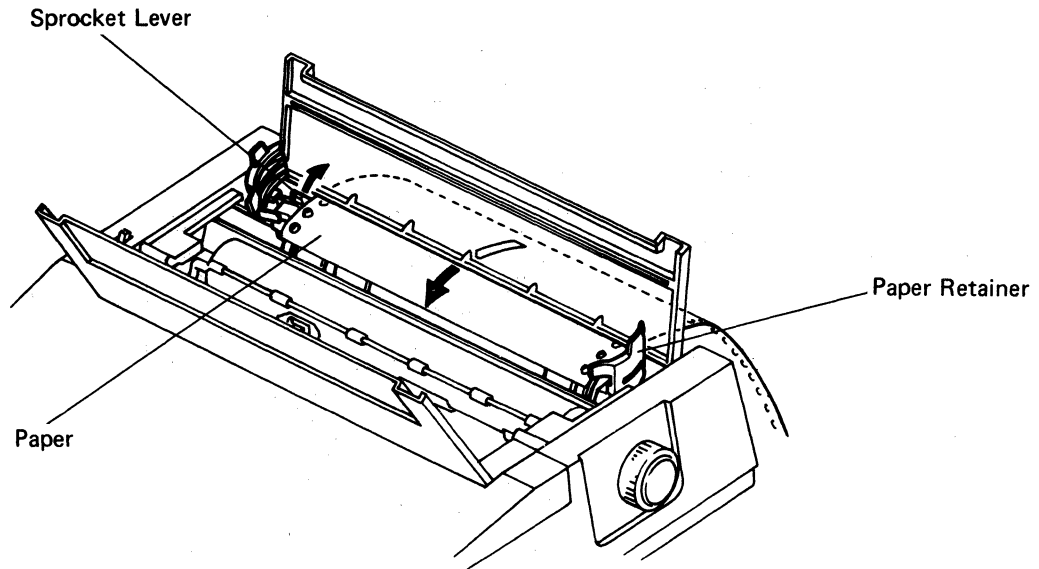

Fig. 8 Paper Insertion (3)
- (5) Fit the paper sprocket holes onto the right and left sprocket tractor pins. If the paper width necessitates adjusting the distance between the sprocket tractors, push back the right or left sprocket lever (allowing the sprocket tractor(s) to move freely) and move the sprocket tractor(s) right or left as needed to match paper width. Then pull the sprocket lever(s) forward to lock the position of the sprocket tractor(s). (Refer to Fig. 8.)